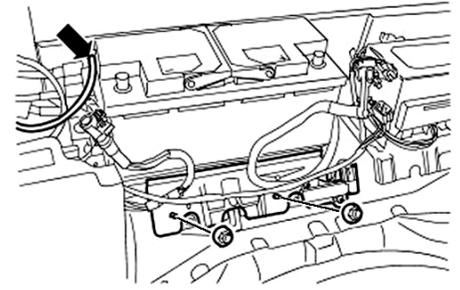

Fig. 2 Battery hold down and vent removal
5. Remove mounting fasteners and battery hold down, **Fig. 2**.
6. Detach battery vent tube, **Fig. 2**.